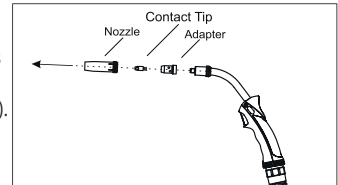

Figure 12 : Removing the Nozzle, the Contact Tip and the Adaptor
- To change the liner; remove the nozzle, the contact tip and the adaptor respectively (Figure 12).